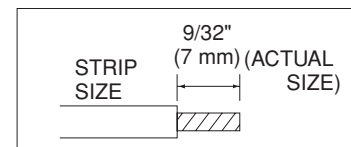

Fig. 9
- (1) Cut the wire end with a cutting pliers, then strip the insulation to expose the wire about 9/32" (7 mm). See the label (Fig. 9) near the terminal plate.
- (2) Using a screwdriver, loosen the terminal screw on the terminal plate.
- (3) Insert the wire and tighten the terminal screw completely using a screwdriver.